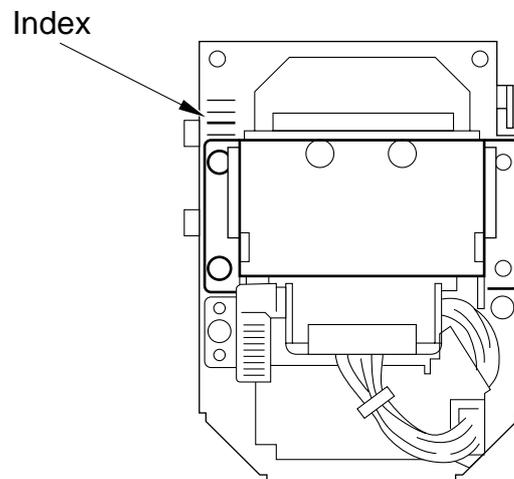

Figure 3-703
- 3) Remove the two screws [3], and detach the stapler holder [4] from the mount. Before detaching it, be sure to take note of the stapler position index (Figure 3-703).